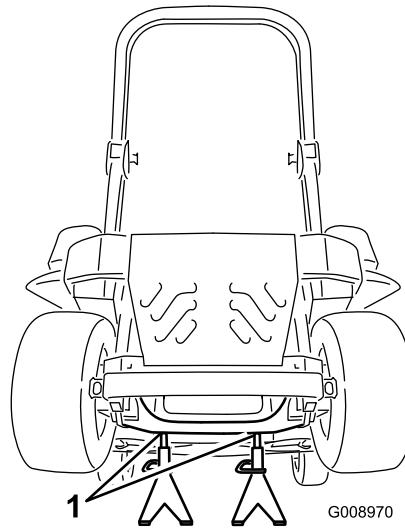

Figure 111
3. Raise the machine and support it with jack stands (Figure 111).
9. Remove the jack stands and lower the machine (Figure 111).